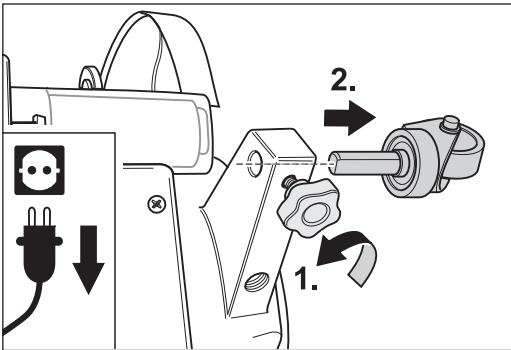

Fig. 78 Undoing the star grip screw and removing the guide rollers from the fan housing.
- 4 Undo the star grip screws on the guide roller arms of the fan housing and pull the guide rollers out of the fan housing (Fig. 78).